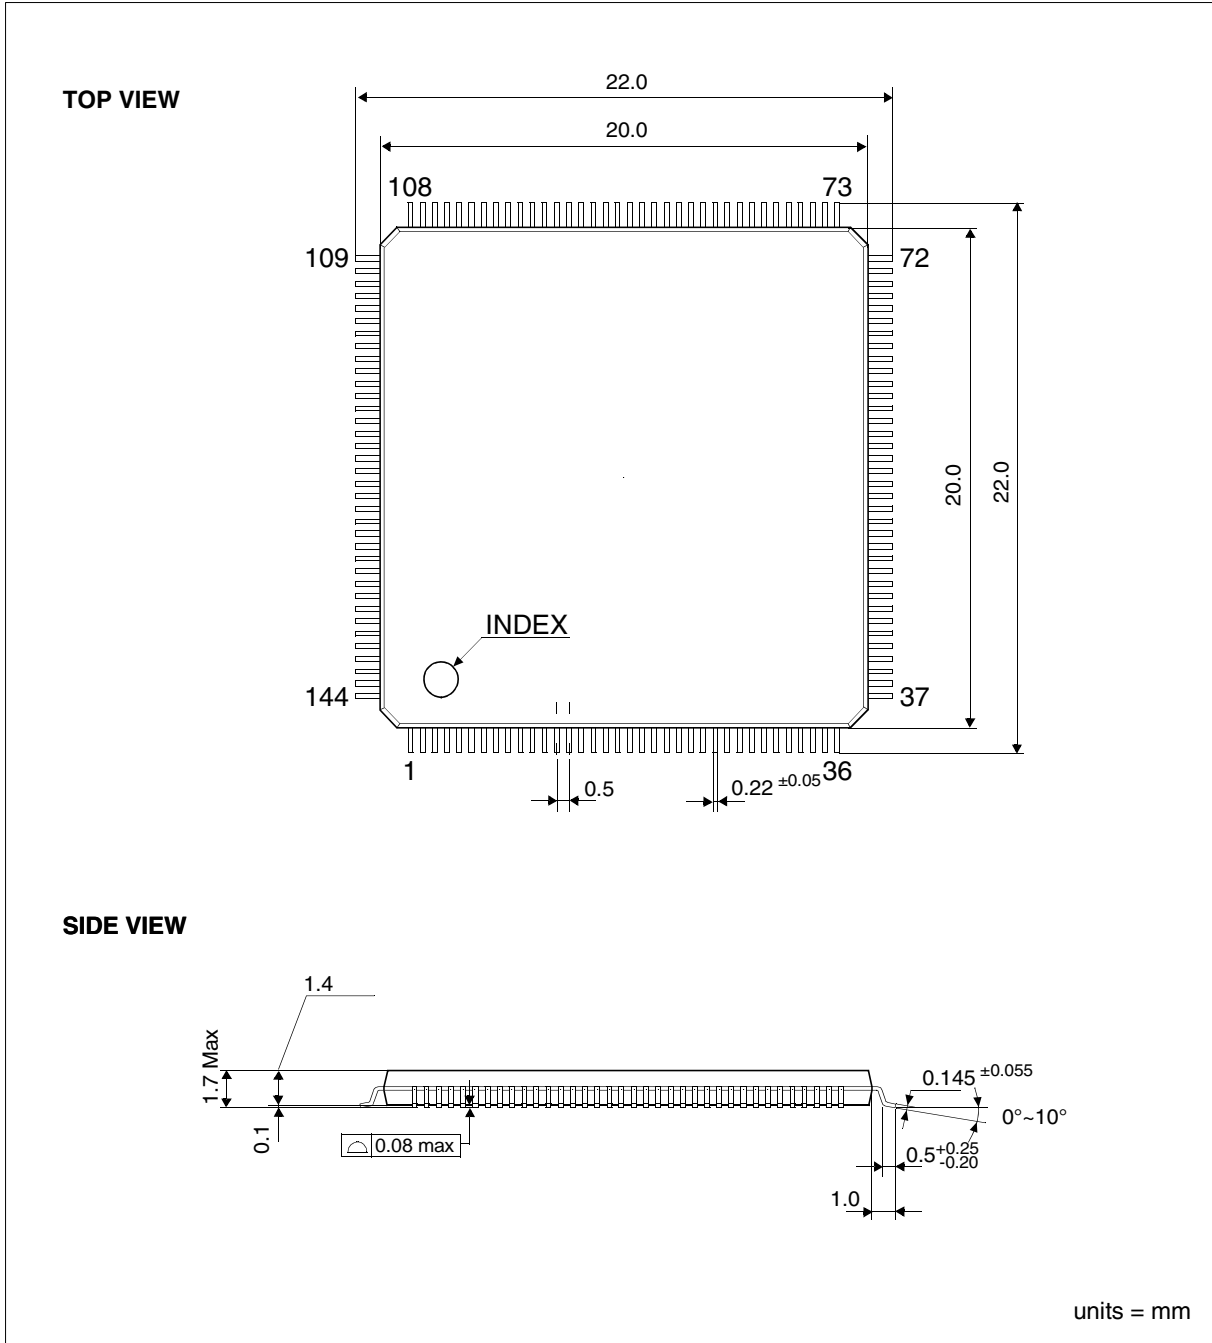

Figure 17-2: S1D13748F QFP20 144-Pin Package
- section 17 Mechanical Data - in figure 17-2, *S1D13748F QFP20 144-Pin Package*, change S1D13748F00 to S1D13748F